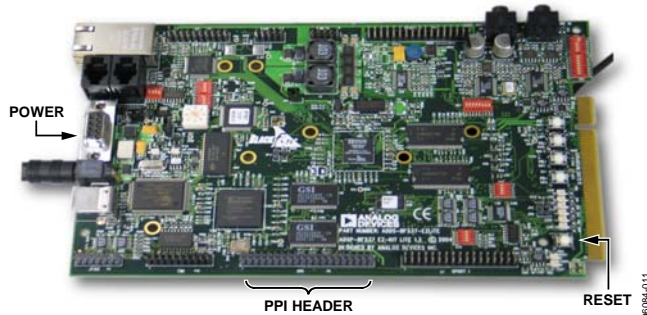

Figure 11. Powering Up the Blackfin EZ-KIT Lite Board
2. Power up the Blackfin board by inserting the power cable into the receiver as shown in Figure 11.
5. Reset the Blackfin board (use the RESET push button as indicated in Figure 11 ).
8. Connect the female connector (J4, marked "Blackfin PPI"), which is on the under side of the EVAL-AD7764/AD7765EBZ evaluation board to the PPI header of the Blackfin board. The PPI port is highlighted in Figure 11.